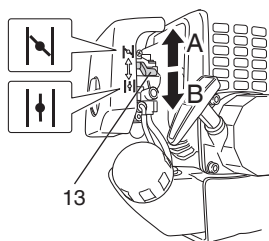

Fig. 10
- (3) Set choke lever (13) to START position (closed) (A). (Fig. 10)
- (5) When you hear the engine want to start, return choke lever to RUN position (open) (B). (Fig. 10)